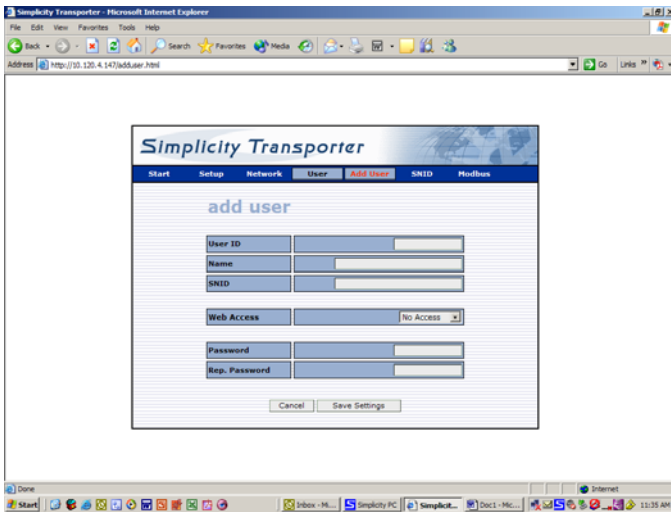

Figure 13 Add user screen
13. Now add your SNID to the device so you can access it over the Internet. Select the “User” screen and click on the red “Add User” button. The “Add User” screen appears as illustrated in figure 13.